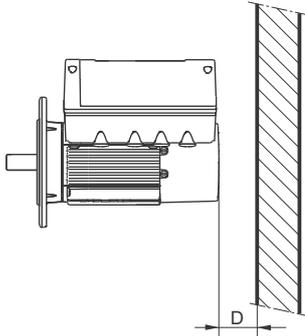

Fig. 1 Minimum distance (D) from the motor to a wall or other fixed objects
In order to ensure sufficient cooling of the motor, the distance (D) between the end of the fan cover and a wall or other fixed objects must always be at least 50 mm, irrespective of motor size. See fig. 1.